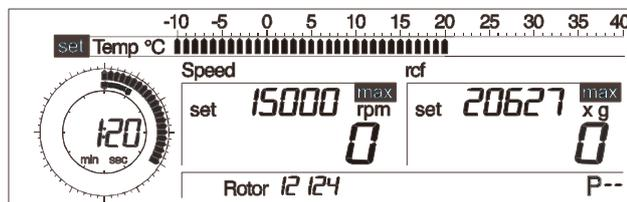

Abb. 5.16:
- Turn the left rotary knob until “set” appears in the display field in front of the parameter "Temp" (Fig. 5.16).